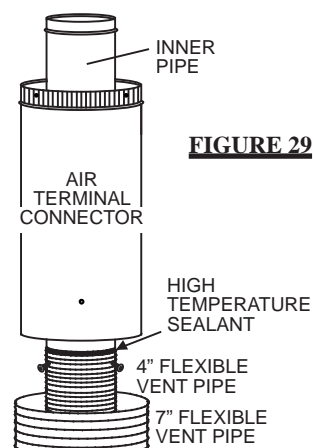

FIGURE 29
2. Stretch the 4" flex vent pipe to the required length. Slip the 4" flex vent pipe a minimum of 2" over the inner pipe of the air terminal connector and secure with 3 #8 screws. Seal using a heavy bead of high temperature sealant W573-0007 (not supplied). Figure 29.
3. Repeat using the 7" flex vent pipe, using a heavy bead of high temperature sealant W573-0002 (not supplied). Figure 29.